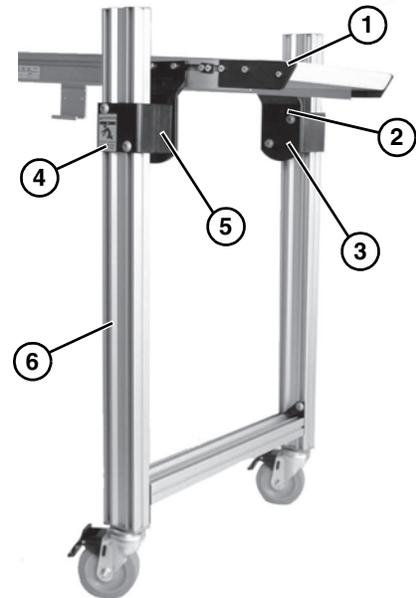

Figure 13
1. Support conveyor section (**Figure 13, item 1**).
2. Loosen two flange socket head screws (**Figure 13, item 2**) on each pivot bracket (**Figure 13, item 3**).
3. Loosen two button head screws (**Figure 13, item 4**) on each leg support (**Figure 13, item 5**).
4. Slide both leg supports (**Figure 13, item 5**) up or down on stand legs (**Figure 13, item 6**) to the required height. If necessary, adjust height of each leg support until conveyor is level from side to side.
<p>Failure to secure screws (Figure 13, item 4) may cause conveyor sections to drop down causing severe injury. TIGHTEN SCREWS (Figure 13, item 4) AFTER ADJUSTMENT.</p>
5. Tighten four button head screws (**Figure 13, item 4**) to 17 ft-lb (22.5 N-m).
6. Tighten four flange socket head screws (**Figure 13, item 2**) to 24 ft-lb (33 N-m).